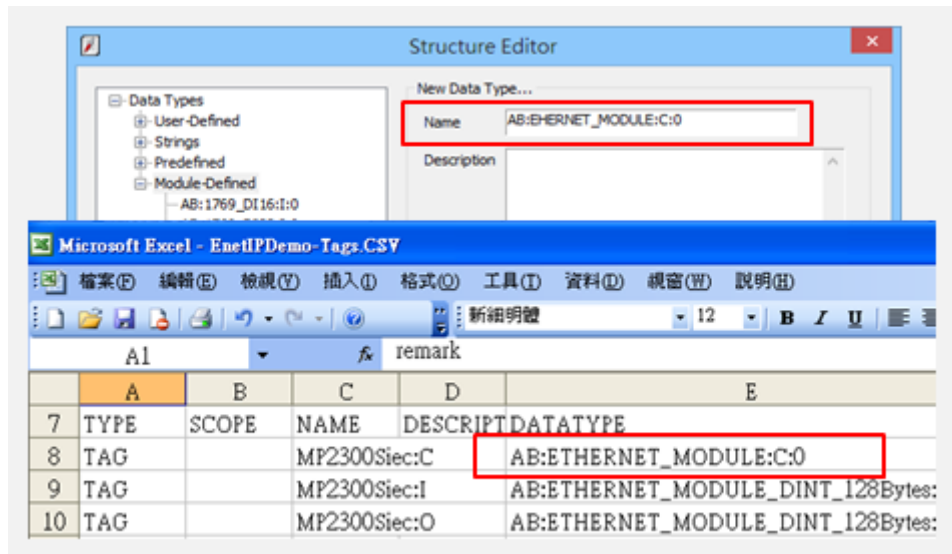
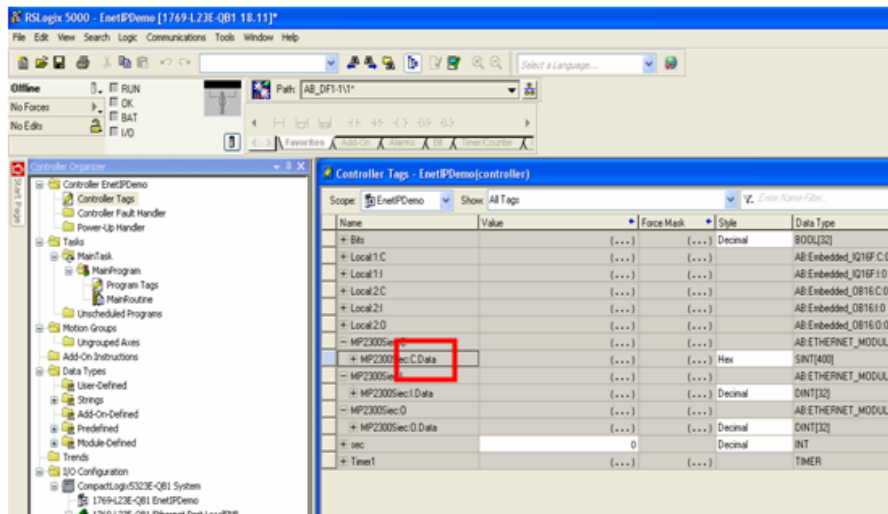
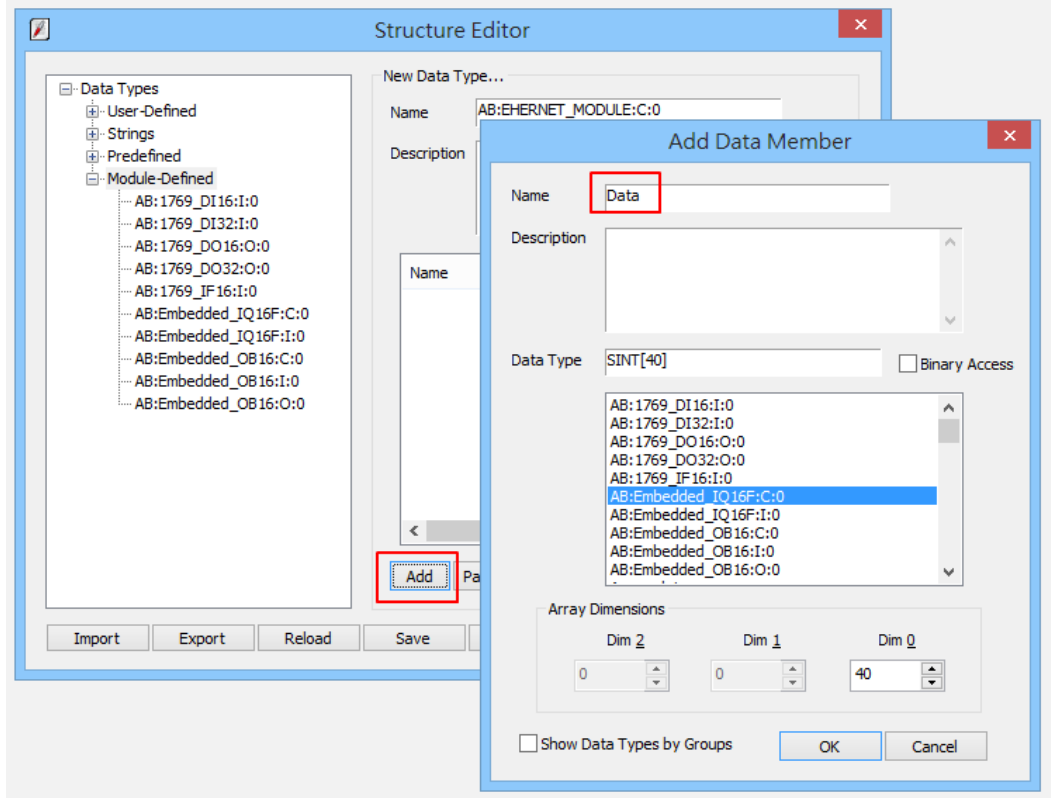
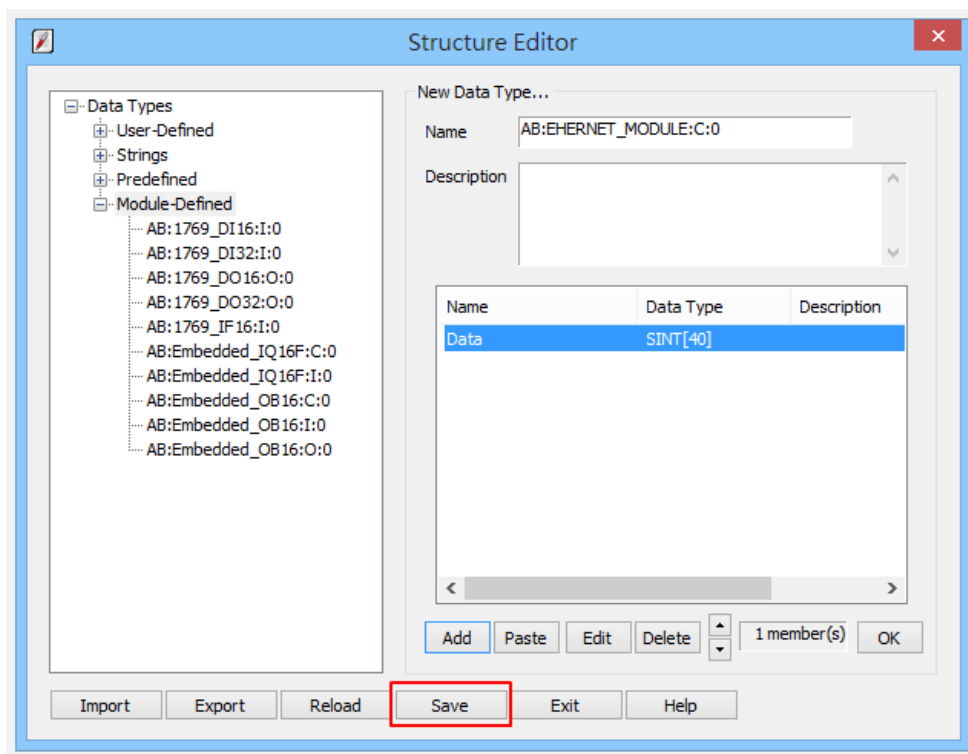

Fig.12 Structure Editor
Fig.13 Tag Information
Fig.14 Add Data Member - Name Tag Information
Fig. 15 Add Data Member-Settings - Save
Step 2. As in Fig 12, in Structure Editor add Name of the new data type. The Name must be set identically to the Data Type in Free Tag CSV file. As in Fig 14, Data Member Name must be set identically to the Rockwell software (as Data in Fig. 13), then click [Save] (Fig. 15).